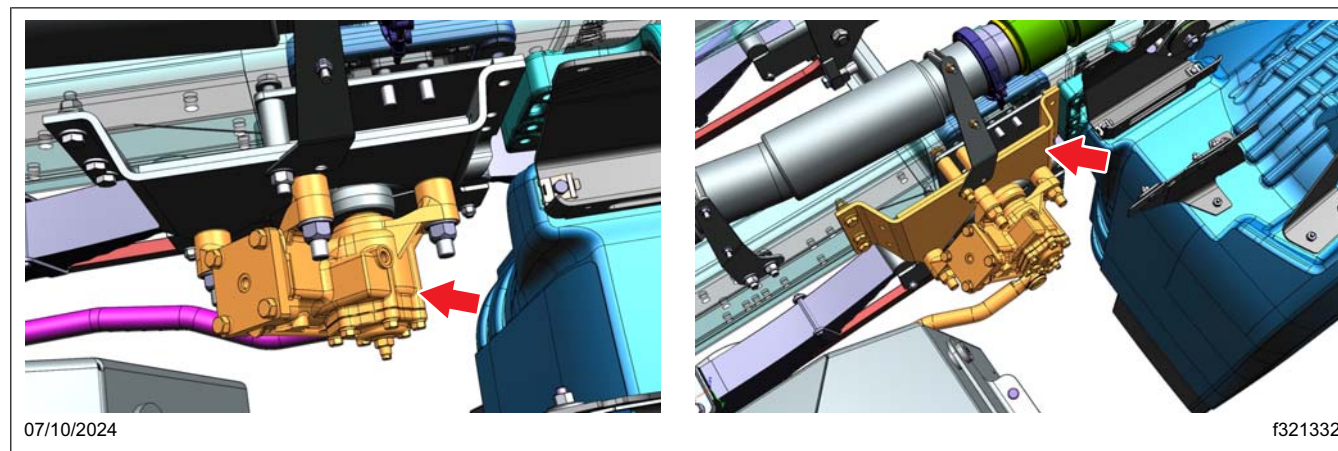

Fig. 14, Steering Gear and Bracket
4. Remove the steering gear and bracket together and lower this as a complete assembly to access the suspension hanger. See Fig. 14.